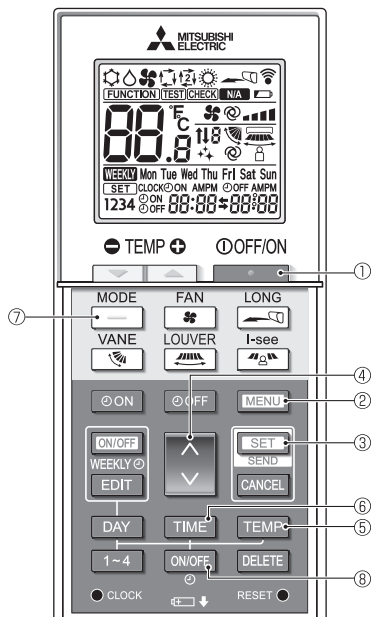

Fig. 7-11
1. Press the ● button ① to stop the air conditioner.
2. Press the MENU button ②.
The Function setting screen will be displayed and the function No. ④ will blink. (Fig. 7-11)